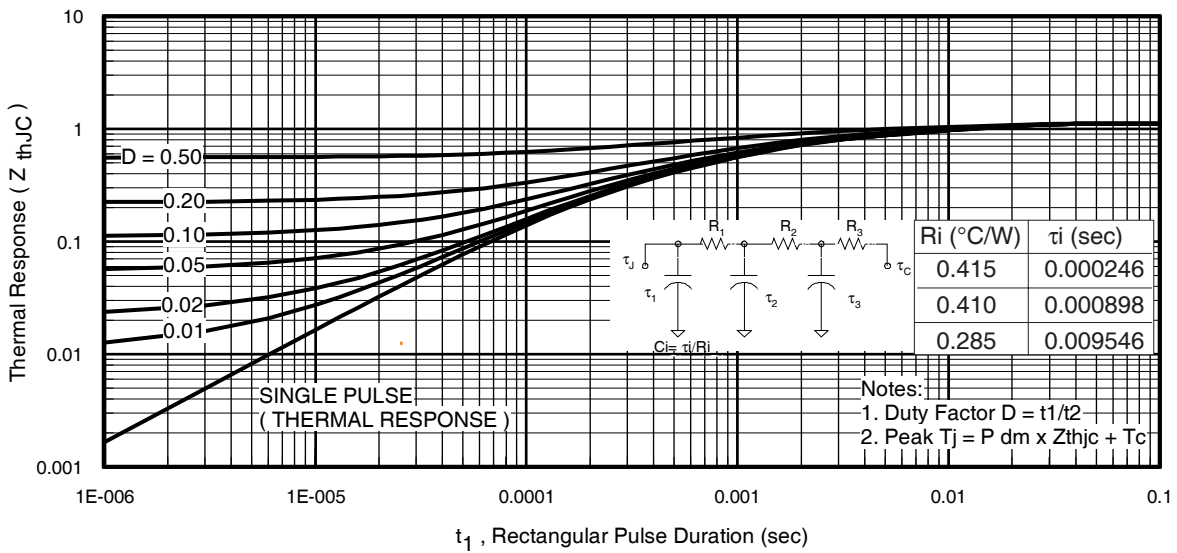
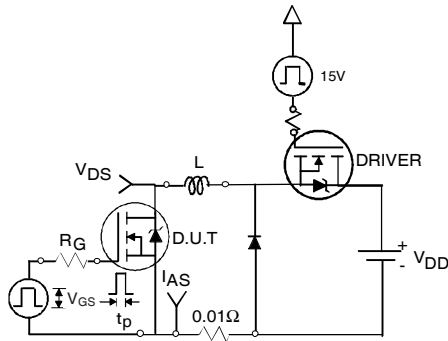

Fig 11. Maximum Effective Transient Thermal Impedance, Junction-to-Case
Fig 12a. Unclamped Inductive Test Circuit
- ① Repetitive rating; pulse width limited by max. junction temperature. (See fig. 11).
- ② Limited by T_{Jmax} , starting $T_J = 25^\circ\text{C}$, $L = 0.077mH$, $R_G = 25\Omega$, $I_{AS} = 51A$, $V_{GS} = 10V$. Part not recommended for use above this value.
- ③ $I_{SD} \leq 51A$, $di/dt \leq 260A/\mu s$, $V_{DD} \leq V_{(BR)DSS}$, $T_J \leq 175^\circ\text{C}$.
- ④ Pulse width $\leq 1.0ms$; duty cycle $\leq 2\%$.
- ⑤ $C_{oss\ eff.}$ is a fixed capacitance that gives the same charging time as C_{oss} while V_{DS} is rising from 0 to 80% V_{DSS} .
- ⑥ Limited by T_{Jmax} , see Fig.12a, 12b, 15, 16 for typical repetitive avalanche performance.
- ⑦ This value determined from sample failure population. 100% tested to this value in production.
- ⑧ This is applied to D²Pak, when mounted on 1" square PCB (FR-4 or G-10 Material). For recommended footprint and soldering techniques refer to application note #AN-994.
3. Equation below based on circuit and waveforms shown in Figures 12a, 12b.
$Z_{thJC}(D, t_{av})$ = Transient thermal resistance, see figure 11)